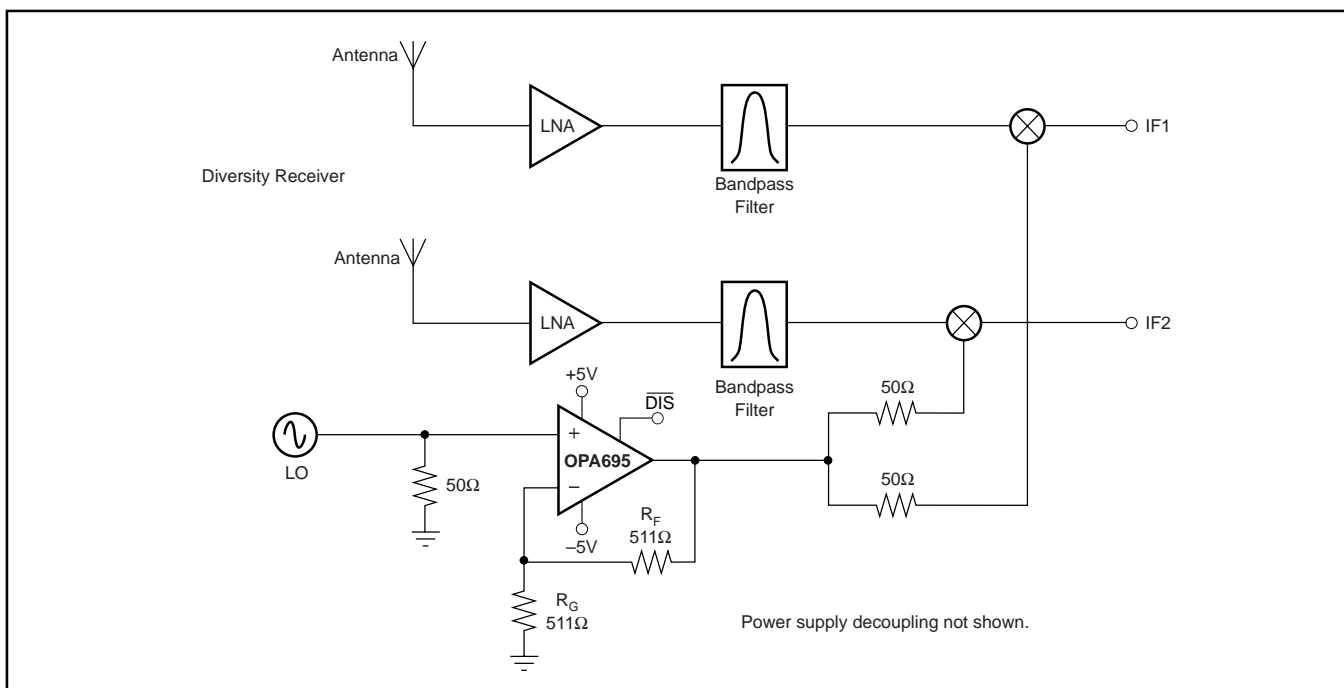

FIGURE 8. Dual Output LO Buffer.
The OPA695 may also be used to buffer the Local Oscillator (LO) from the mixer(s). Operating at a voltage gain of +2, the OPA695 will provide almost perfect load isolation for the LO with a net gain of 0dB to the mixer. Applications through 1.4GHz LOs may be considered, but best operation would be for LOs < 1.0GHz at a gain of +2. Gain could also be easily provided by the OPA695 to drive higher power levels into the mixer. One unique option in using the OPA695 as an LO buffer is shown in Figure 8. Since the OPA695 can drive multiple output loads, two identical LO signals may be delivered to the mixers in a diversity receiver simply by tapping the output off through two series 50Ω output resistors. This circuit is set up for a voltage gain of +2V/V to the output pin for a gain of +1V/V (0dB) to the mixers, but could easily be adjusted to deliver higher gains as well.